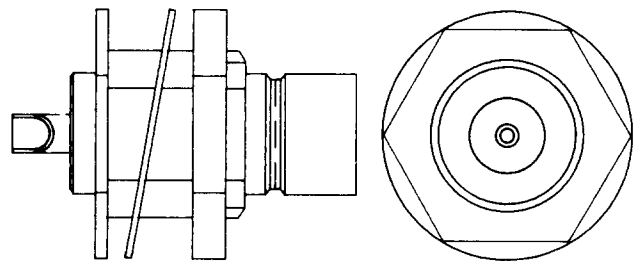
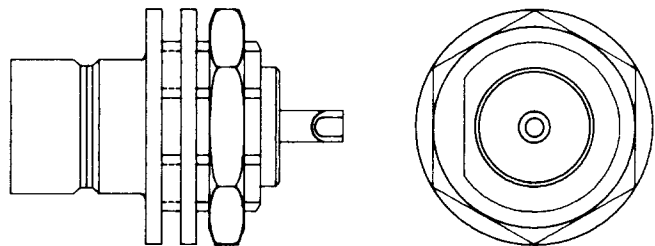

Fig. 11—KS-19900, L1 or L2 Connector
Fig. 12—KS-19900, L3 Connector
2.04 KS-19900, L1, L2, and L3: The KS-19900, L1, L2 (Fig. 11), and L3 (Fig. 12), are miniature, 75-ohm, coaxial, snap-on, panel-mounted connectors that are furnished with lockwashers and hex nuts for mounting. The KS-19900-type connectors will mate with the KS-19903, KS-19904, and KS-19905 plugs. The KS-19900-type are used in SF submarine cable.